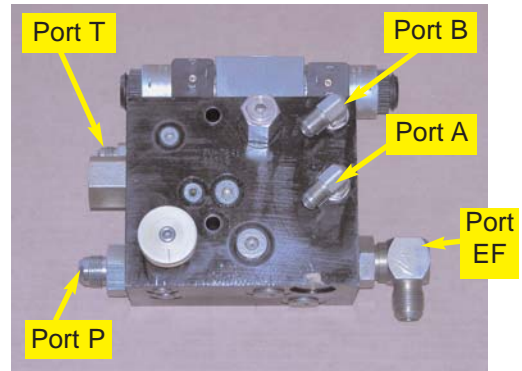

Figure 1. Prepared Automated Steering Block.
- a. Make sure the Automated Steering Block is clean and dust free. (Figure 1.)
- b. Remove the plastic plugs and install the small elbow adapters (**E**) in the **A** and **B** ports and the larger elbow adapter (**B**) in the **EF** port. (Figure 1.)
- c. Install the larger straight adapter (**D**) in the **P** port and the smaller straight adapter (**C**) in the **T** port of the Automated Steering Block. (Figure 1.)